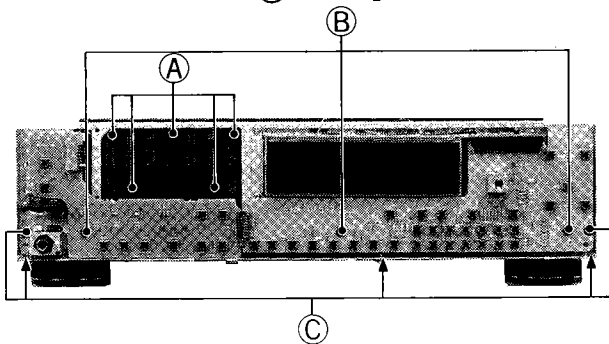

Fig. 1
■ Removing the SEA PCB (Fig. 1)
3. Remove five screws (A) securing the SEA PCB.
■ Removing the LCD PCB (Fig. 1, 3)
2. Remove five screws (C) securing the front bracket.
3. Remove two plastic rivets (D), and draw out the front bracket in little.
4. Remove four plastic rivets (E) securing the LCD PCB.